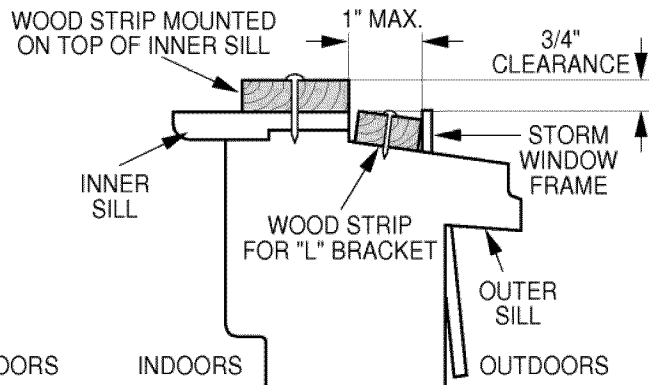

Fig. 4-2
2. If storm window presents interference, fasten a 2" wide wood strip (OUTER SILL) to inner window sill across the full width of the sill. Wood strip should be thick enough to raise the height of the window sill so that the unit can be installed without interference by the storm window frame. See Fig. 4-2. Top of wood strip should be approximately 3/4" higher than storm window frame (STORM WINDOW FRAME) or wood strip (OUTDOORS) to help unit condensation to drain properly to the outside.
3. Install a second wood strip (approximately 6" long 1-1/2" wide and same thickness as first strip) in the center of the outer sill flush against the back off the inner sill. This will raise the L bracket as shown Fig. 4-2.